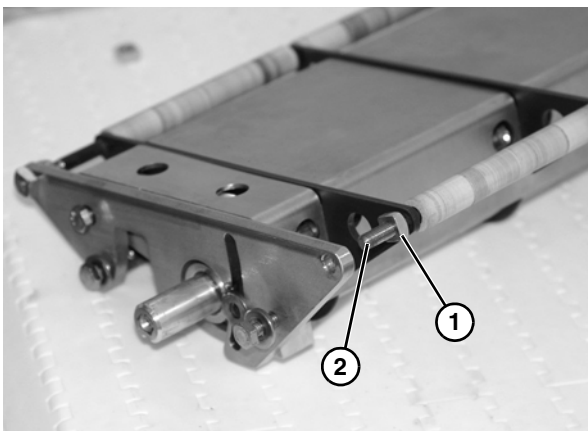

Figure 33
- Install inner nut (**Figure 33, item 1**) onto rod (**Figure 33, item 2**).